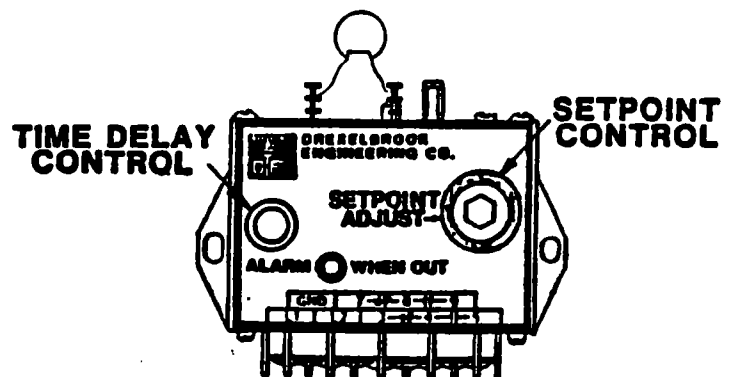

Fig. 3-1
There is a single adjustment located on top of the instrument that controls the level at which the relay operates. A lighted LED indicates that the relay is energized. The unit is in alarm or "failed" condition when the LED is out. See Section 3.3 for calibration of the setpoint adjustment. Be sure to use the insulated tuning wrench provided with the instrument. See Figure 3-1.
The 506-6900 Series controls come standard with 0-90 sec time delay. The time delay adjustment is located on top of the instrument, across from the setpoint adjustment. Use a small screwdriver to adjust the time delay. See Figure 3-1. Time delay is used to help stop a "chattering" relay output due to waves in the interface.
B. Turn the adjustment 15 turns clockwise (CW) and record this number.
A. Turn the time delay adjustment to the extreme counterclockwise position (minimum time delay). See Figure 3-1.
C. After the instrument is adjusted to the desired operating point, use a screwdriver to turn the time delay adjustment clockwise (CW) until you reach the required delay.